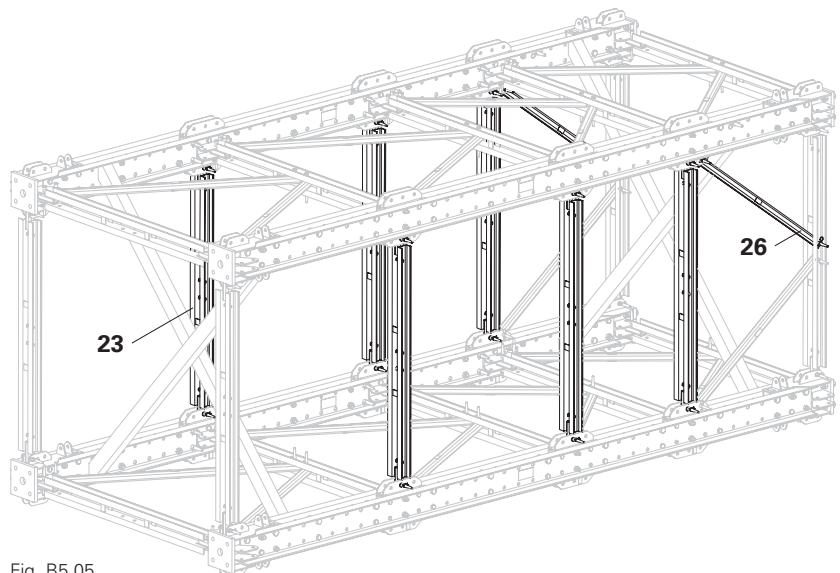

Fig. B5.05
1. Connect the second diagonal strut VST (26)\* to the bracing connector VST (8) and horizontal ledger VST 200 (23) using 1x fitting pin  $\varnothing$  21 mm (9) each.
2. Install the required horizontal ledgers VST 200 (23). (Fig. B5.05) (see Section B3, Module assembly)